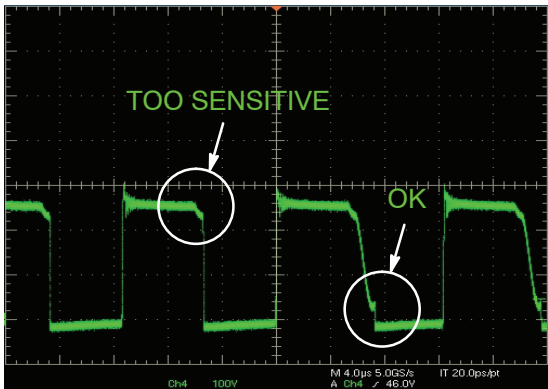
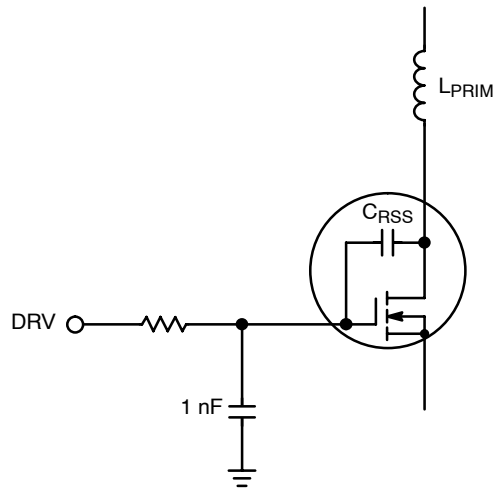

Figure 13. Instability with Multiple Outputs
Figure 14. Gate-to-Ground Capacitor
- The detector is too sensitive ( $C_{RSS}$  is too big): in multiple-output applications the small oscillation created by the early demagnetization of one of the output windings is detected, leading to a CCM operation (see Figure 13). A 470 pF or 1 nF capacitor connected between MOSFET's gate and ground reduces the sensitivity (see Figure 14).